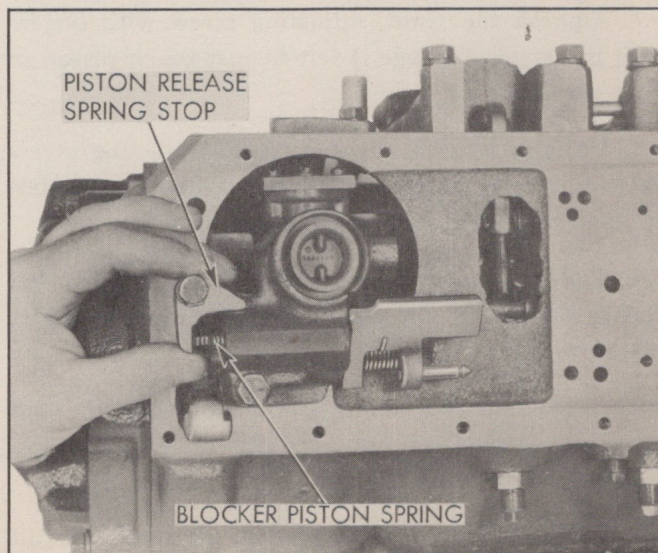

Fig. 310—Installing Parking Blocker Piston Spring and Piston Release Spring Stop
4. Install parking blocker piston spring, piston release spring stop and start bracket to case bolts into case (Fig. 310). Loosen rear pump attaching bolts.